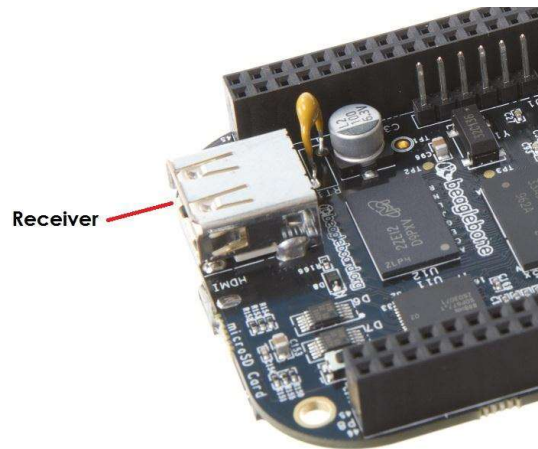

**Figure 8. DVI-D to HDMI Adapter**
2. If you have a DVI-D monitor you must use a DVI-D to HDMI adapter in addition to your HDMI cable. An example is shown in **Figure 8** below from two perspectives. If you use this configuration, you will not have audio support.